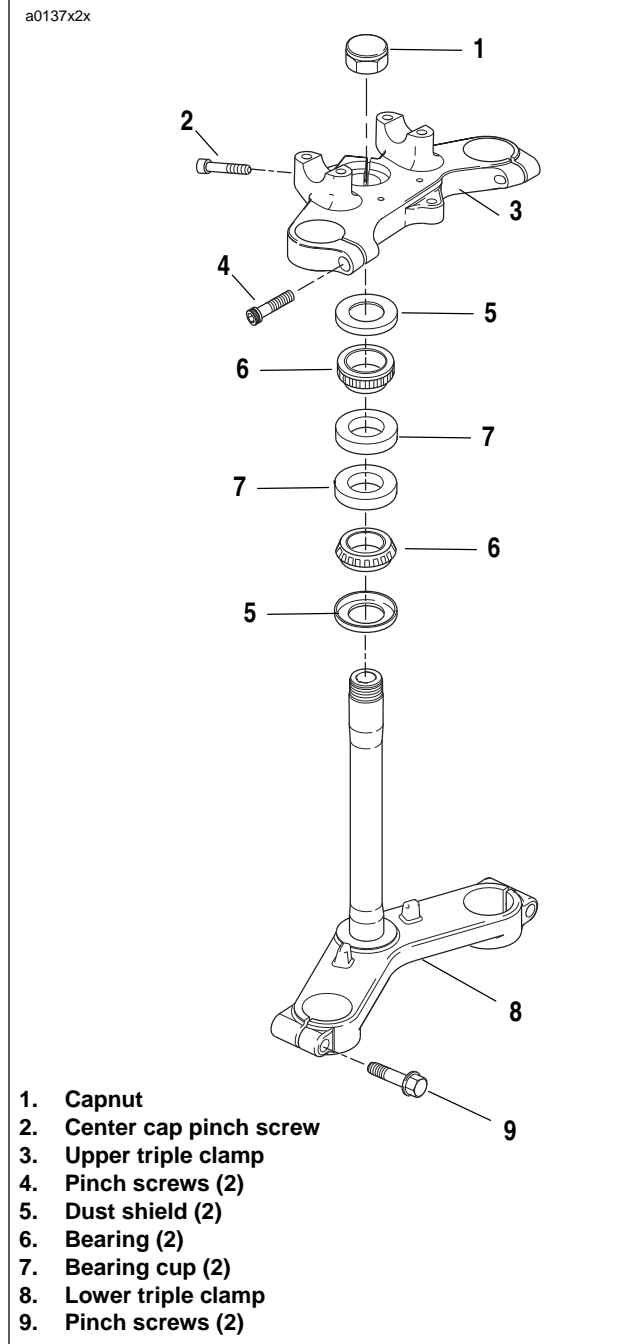

Figure 2-99. Fork Stem and Bracket Assembly
7. See Figure 2-99. Remove screw (2) and capnut (1).
8. Support lower triple clamp (8) and remove upper triple clamp (3).
9. Remove upper dust shield (5) and upper bearing (6).
11. Remove lower bearing (6) and lower dust shield (5) from lower triple clamp.
1. See Figure 2-99. Clean the dust shields (5), bearing cups (7), fork stem and lower triple clamp (8) and frame with solvent.
2. Carefully inspect bearing races and assemblies for pitting, scoring, wear and other damage. Replace damaged bearings (6) as a set (5, 6 and 7).
3. Check the fork stem and lower triple clamp (8) for damage. Replace if necessary.
2. See Figure 2-99. Liberally coat the bearings (6) with grease using WHEEL BEARING PACKER TOOL (Part No. HD-33067). Work the grease into the rollers.
- a. Place lower bearing dust shield (5) over fork stem.
- c. Press bearing (6) with small end up onto fork stem and lower triple clamp (8). Use the pipe as a press-on tool.
4. Insert lower triple clamp (8) through the steering head. Install the upper bearing (6) with small end down and dust shield (5) onto fork stem.
5. Apply Loctite 243 (Blue) to fork stem. Loosely install upper triple clamp (3) using cap nut (1).
7. Tighten cap nut (1) until the bearings have no free play. Make sure the fork stem turns freely.